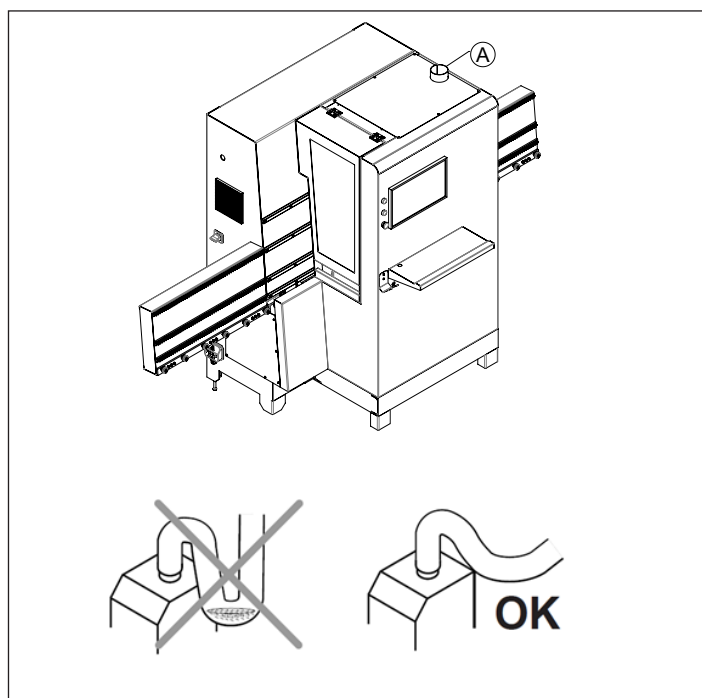

Fig. 4.8
The dust collection need 100mm diameter hose, which is connected to the dust collection port (A) in Fig.4.8. Clamp it with the proper metallic clip to ensure the contact between suction hood and hose.
IMPORTANT: Ensure that there are no kinks or sharp bends in the extractor hose. Sharp bends will cause a build up of wood shavings in the bend and restrict the extraction flow (See Fig. 4.8)